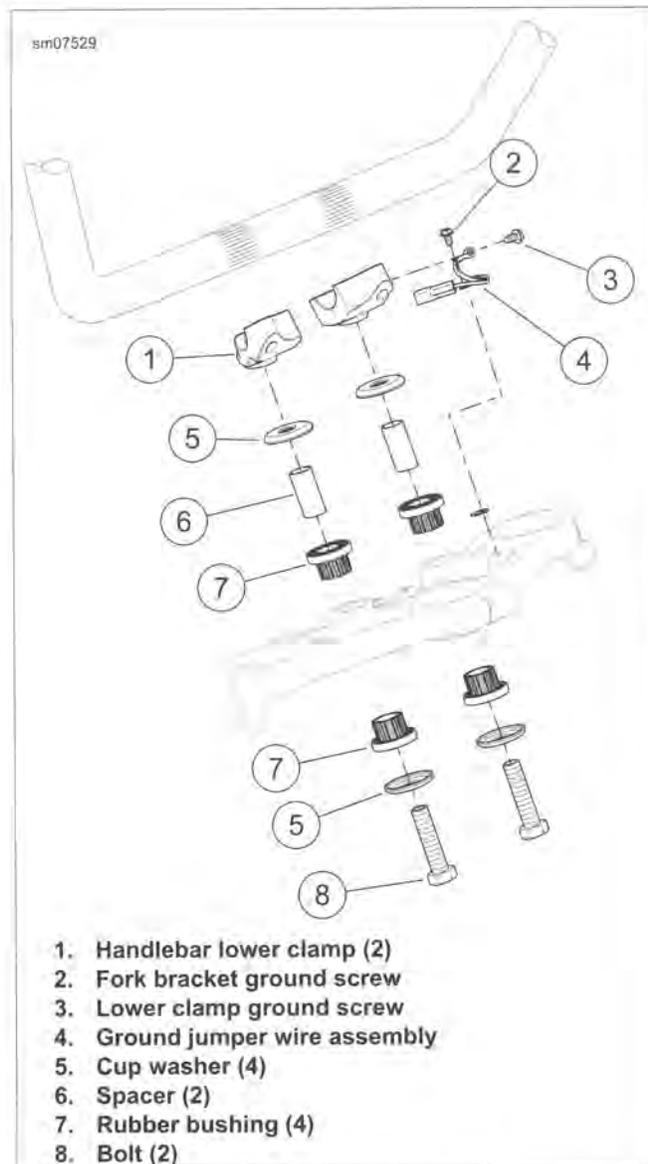

Figure 2-104. Handlebar Mounts
See Figure 2-104. When assembling handlebar mounts, apply **LOCTITE 243 MEDIUM STRENGTH THREADLOCKER AND SEALANT** (blue) to threads of bolts (8). Tighten bolts to 30-40 ft-lbs (40.7-54.2 Nm).